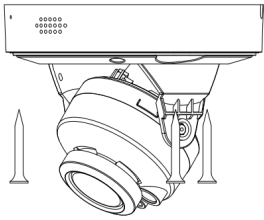

Figure 2-6 Ceiling installation
- 3. Direct ceiling installation: Align the installation base directly with the holes, and fix the camera base at the position to be installed with three PA3.5*25 screws. As shown in Figure 2-6: